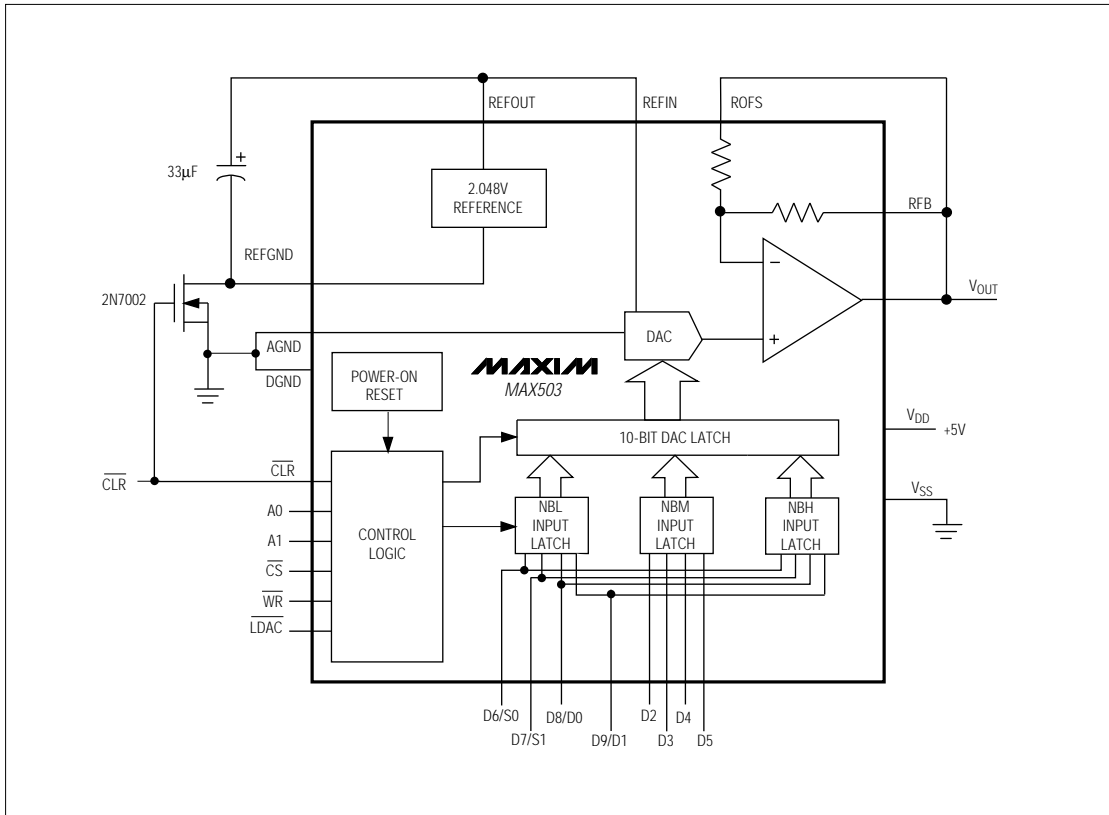

Figure 3. Low-Current Shutdown Mode
An additional 110 μ A of supply current can be saved when the internal reference is not used by connecting REFVDD to VDD. A low on-resistance N-channel FET, such as the 2N7002, can be used to turn off the internal reference to create a shutdown mode with minimum current drain (Figure 3). When CLR is high, the transistor pulls REFVDD to AGND and the reference and DAC operate normally. When CLR goes low, REFVDD is pulled up to VDD and the reference is shut down. At the same time, CLR resets the DAC register to all 0s, and the op-amp output goes to 0V for unity-gain and G = 2 modes. This reduces the total single-supply operating current from 250 μ A (400 μ A max) to typically 40 μ A in shutdown mode.
In order to provide hardware and software compatibility with the 12-bit MAX530, the MAX503 employs a 12-bit digital interface. As shown in Figure 3, there is actually a 12-bit input latch, and therefore 12 bits of data should be written. The two least significant bits (S1 and S0) are sub-LSB, and must always be 0s. Designed to interface with 4-bit, 8-bit, and 16-bit microprocessors (μPs), the MAX503 uses 8 data pins and double-buffered logic inputs to load data as $4 + 4 + 4$ or $8 + 4$. The 12-bit DAC latch is updated simultaneously through the control signal LDAC. Signals A0, A1, WR, and CS select which input latches to update. The 12-bit data is broken down into nibbles (NB): NBL is the enable signal for the lowest 4 bits (S0, S1, D0, D1), NBM is the enable for the middle 4 bits, and NBH is the enable for the highest and most significant 4 bits. Table 2 lists the address decoding scheme.